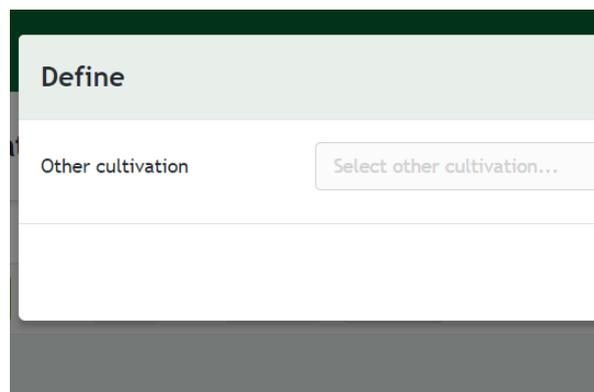

Figure 6
2. Then click on 'Define' at top right of the screen. A screen will open as shown in figure 6.